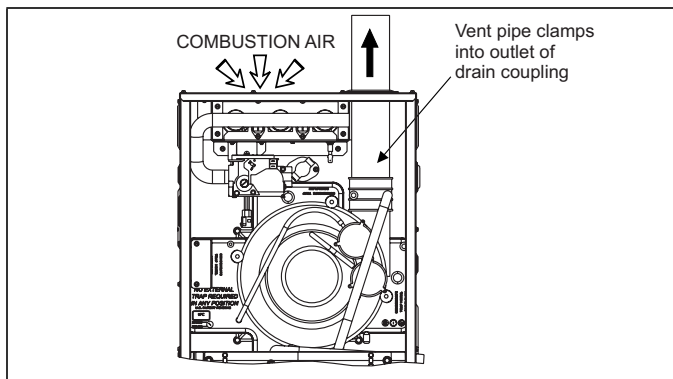

FIGURE 42: Combustion Airflow Path Through The Furnace Casing
1. **OUTDOOR COMBUSTION AIR:** This is a direct vent configuration where the combustion air is supplied through a PVC or ABS pipe that is connected to the PVC coupling attached to the furnace and is terminated in the same atmospheric zone as the vent. This type of installation is approved on all models. Refer to Figure 42.
This installation requires combustion air to be brought in from outdoors. This requires a properly sized pipe (Shown in Figure 42) that will bring air in from the outdoors to the furnace combustion air intake collar on the burner box. The second pipe (Shown in Figure 42) is the furnace vent pipe.